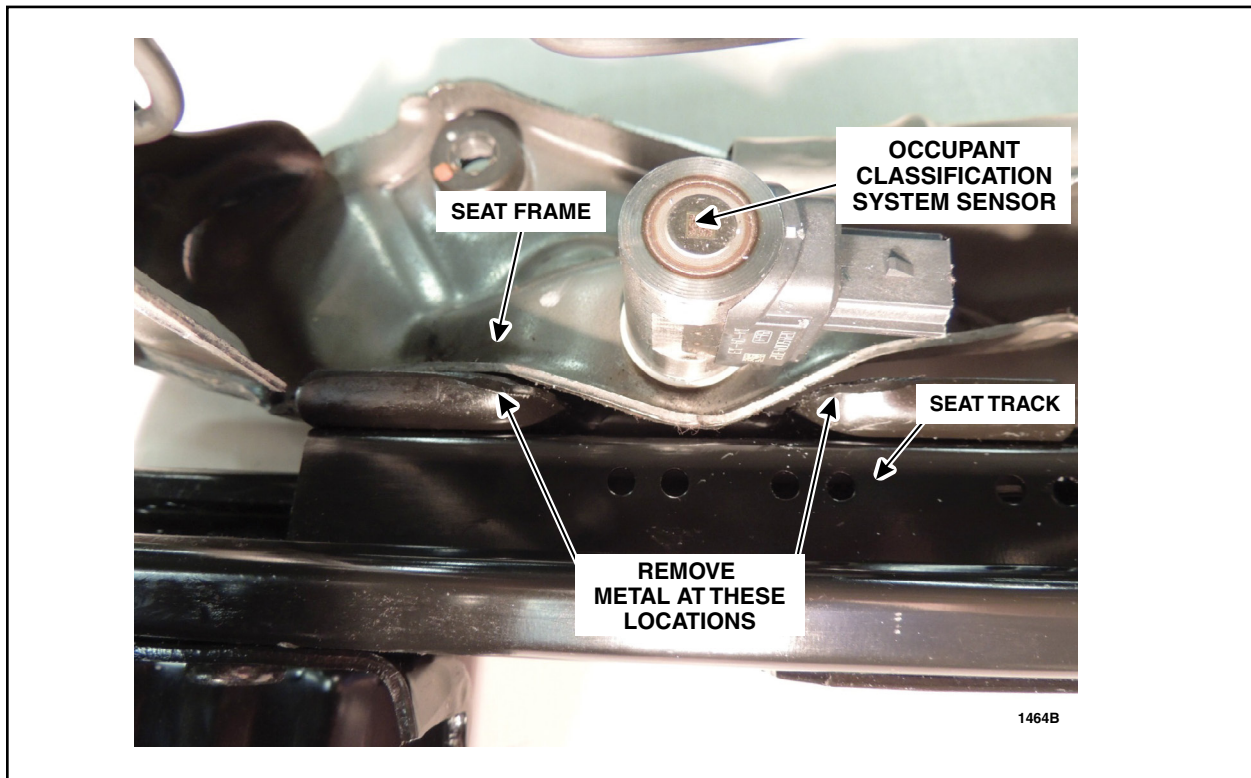

FIGURE 1
3. Using a 32 teeth per inch metal hacksaw blade, insert the blade down alongside the seat frame. Using gentle force on the hacksaw blade, cut the metal as you move the blade through the contact area. Do this at both locations at each side of the sensor. See Figures 1 and 2 (Seat disassembled for clarity).